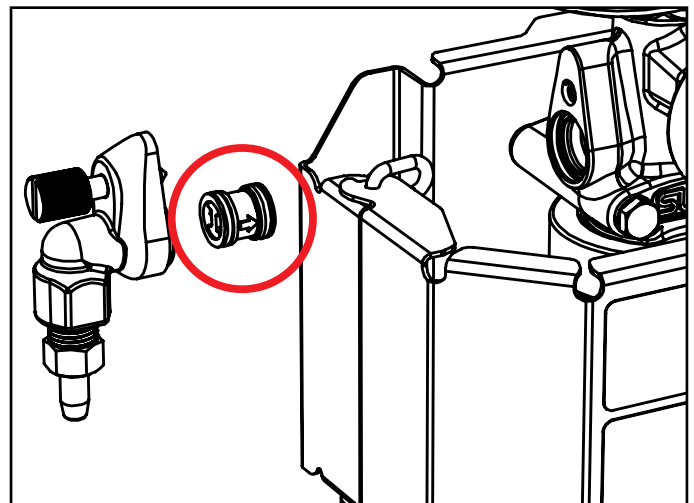

Fig. 10.3: SLX Check Valve (correct orientation)
5. The check valve will be seated either inside of the elbow or the main body. Grab it and pull to remove. [Fig 10.3]